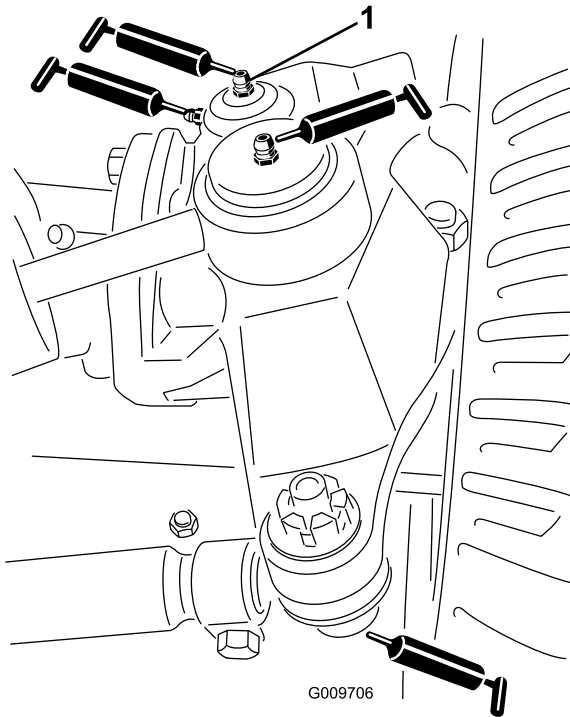

Figure 28
- Steering-cylinder ball joints (2) (Figure 28)
- Tie-rod ball joints (2) (Figure 28)
- Kingpin bushings (2) (Figure 28). **The top fitting on the king pin should only be lubricated annually (2 pumps).**